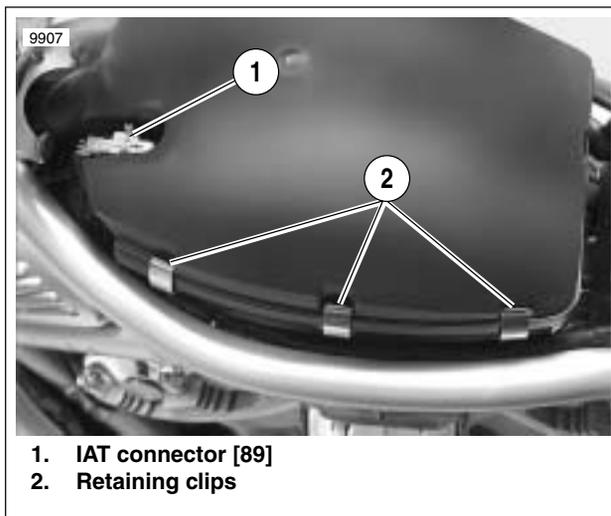

Figure 1-2. Air Filter Top
3. See Figure 1-2. Remove IAT connector (1) by pushing down on bail wire to unlock. Airbox top is retained by eight clips (2), three per side, one at the rear and one in the front under the snorkel. Disconnect clips and remove airbox top.
13. See Figure 1-2. Attach IAT connector.